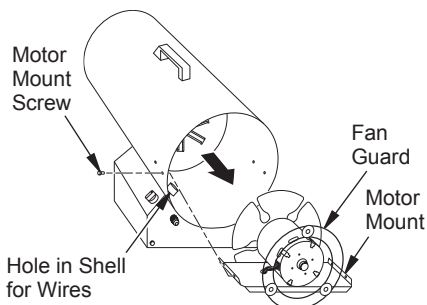

Figure 6 - Removing Motor, Motor Mount and Fan Guard from Heater
5. Remove screws holding motor mount to shell. Use nut-driver (see Figure 6).